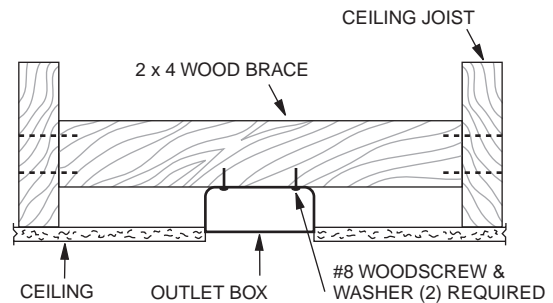

FIGURE 2
A. Secure a metallic outlet box 4" x 1-1/2" or 4" x 1/2" deep to 2 x 4 cross brace between two ceiling joists as shown in Figure 2. The outlet box must be recessed in the ceiling by 1/16" minimum. Secure the outlet box to the cross brace by drilling (2) pilot holes no larger than the minor diameter of the woodscrews (5/64") and use two #8 x 1-1/2" woodscrews and washers. Use the innermost holes for securing the box. Orient the box so the outermost holes are aligned with the 2 x 4 brace. The outermost holes will be used in Step 4B.